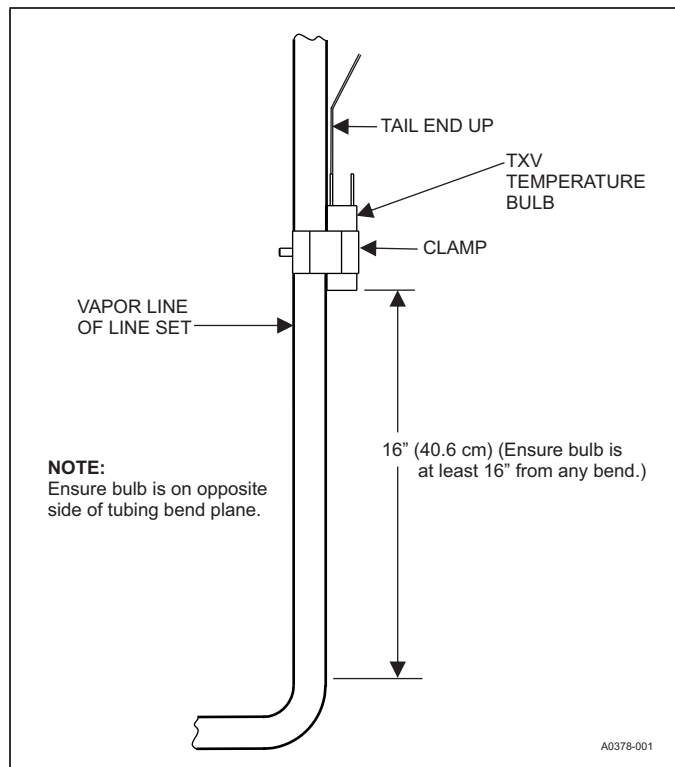

FIGURE 9: Vertical Temperature Bulb Orientation
- b. If bulb installation is made on a vertical run, ensure that the bulb is a minimum of 16 inches (20.3 cm) away from elbow coming out of the coil. Position the bulb with the tail of the bulb at the top, so that the bulb acts as a reservoir. See Figure 9.